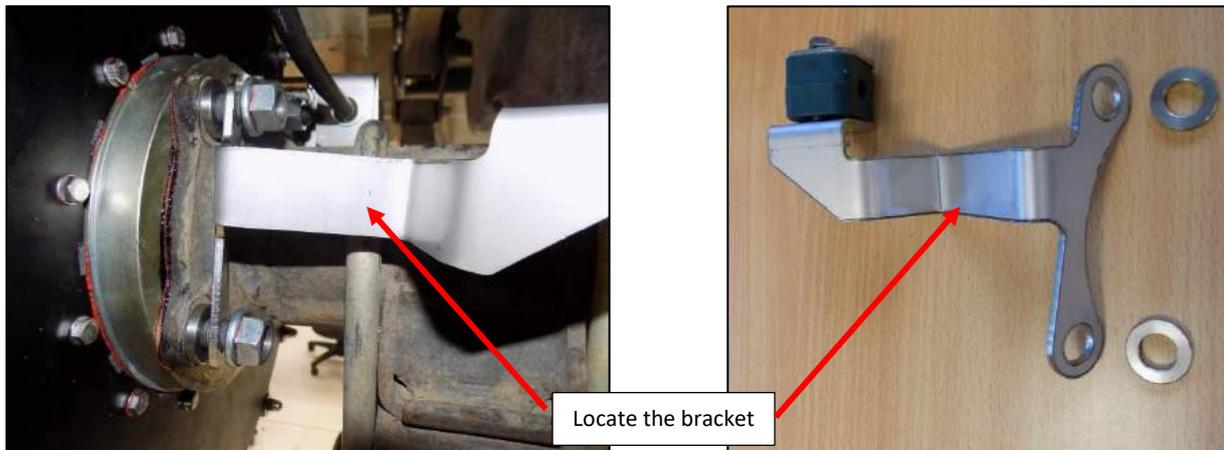

Figure 13
- 24. Fit the park-brake cable bracket to the mounting studs (Figure 13).